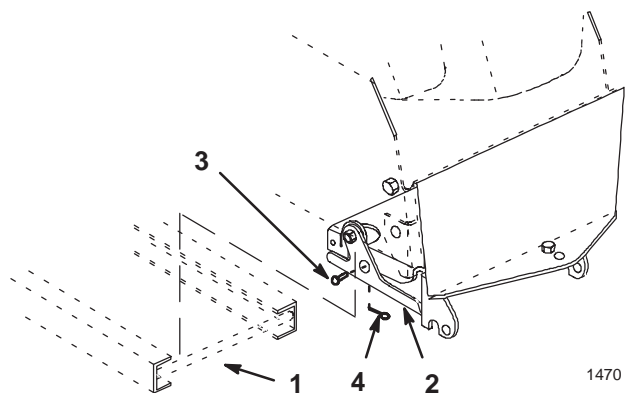

Figure 7
5. Close the latch levers and secure them with 3/4 in. (19 mm) clevis pins and small hairpin cotters (Fig. 7).